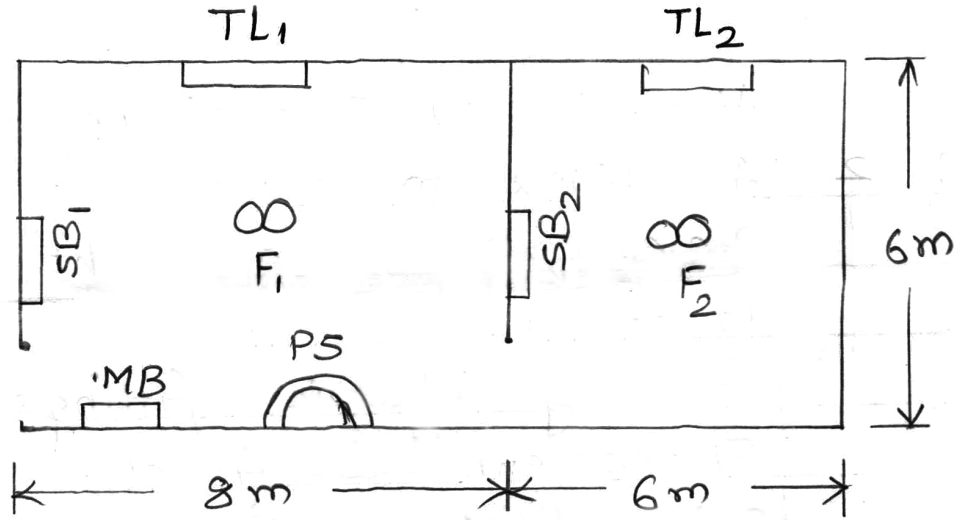

Fig. No. 1
- Draw the wiring diagram for the residential load shown in Fig. No. 1